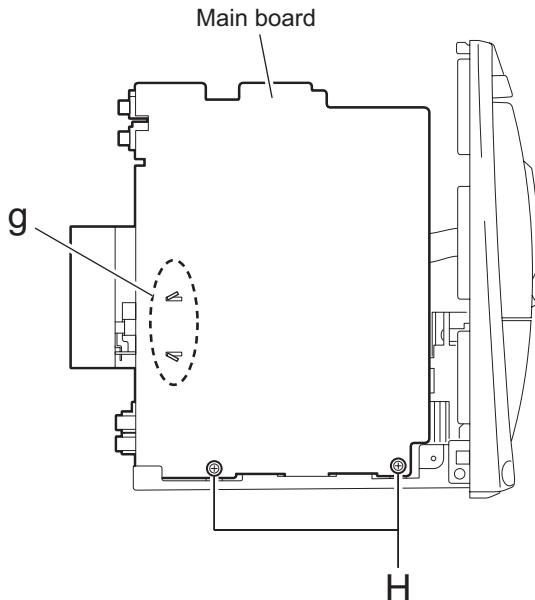

Fig.9
3.1.7 Removing the main board / the heat sink board / the speaker board / the vocal cancel board (See Fig.9~11)